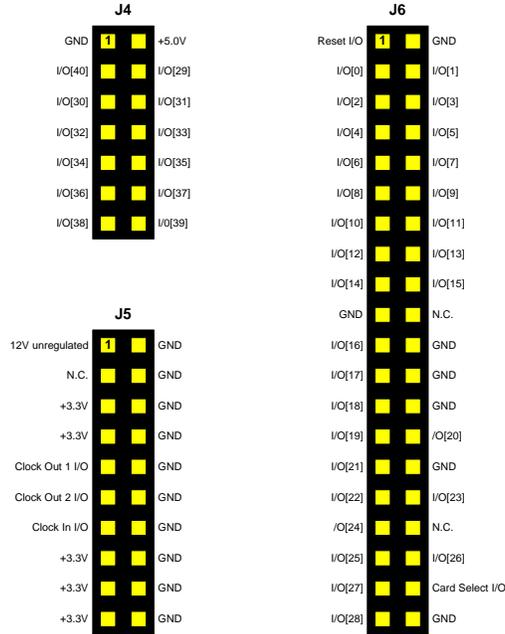

Figure 3: Santa Cruz A
**J4, J5 and J6** in Figure 3 make up Santa Cruz A. These headers provide 41 general I/O, 2 control I/O and 3 clock I/O connections to the Cyclone FPGA on the Firefly Module. In addition, the headers provide access to 3.3 and 5.0VDC regulated power as well as raw 12VDC from the wall supply.